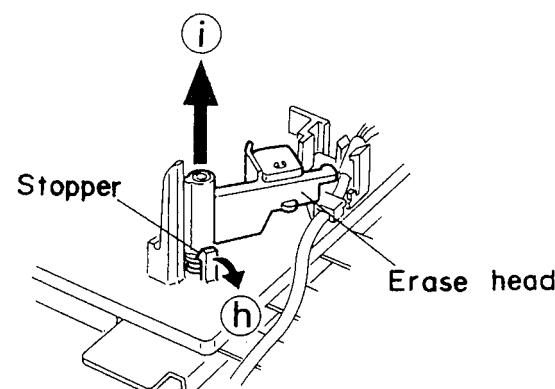

Fig. 2 – 23
■ Flywheel assembly (Fig. 2 – 24)